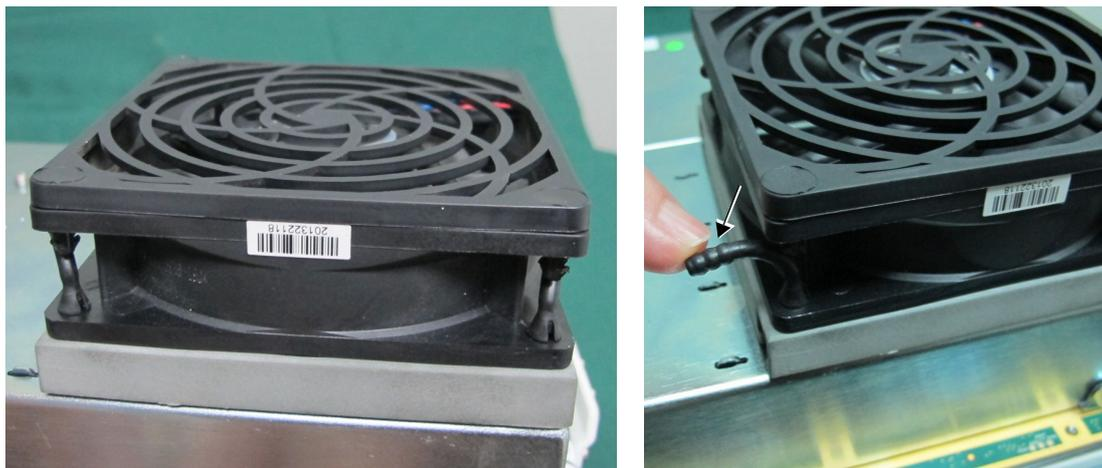
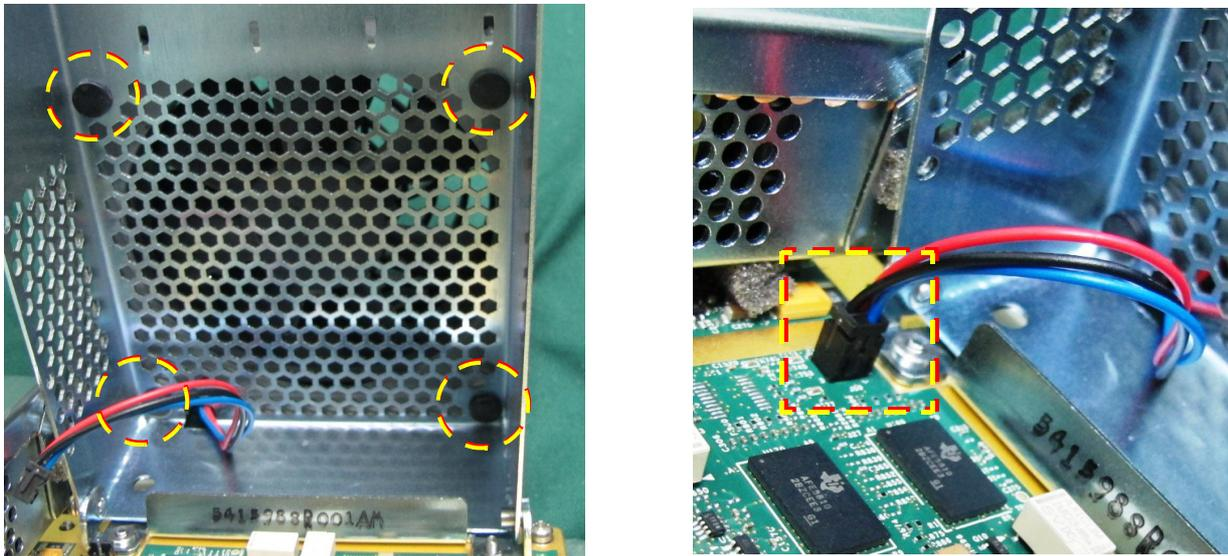

Figure 8-189 Fan Secured to TRX32 Box
Figure 8-190 TRX32 Cover and Fan Cable
5) Cut each of the four rubber grommets and remove them to release the fan (see Figure 8-189).
- 1) Position the new fan on the TRX32 Box cover then thread the fan cable through the top of the cover and lead it through as shown in Figure 8-190 (right).
- 2) Using the rubber grommets provided, thread each rubber grommet from the inside of the TRX32 Box cover through to the new fan - Figure 8-190 (left) - and pull it through from side of the fan until each grommet is firmly in position securing the fan - see Figure 8-189, above.
- 3.) Connect the fan cable to the CFE board - see Figure 8-190, above.